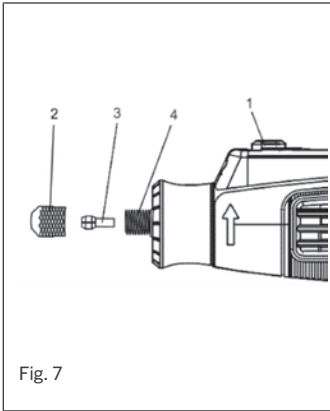

Fig. 7
2. Depress the spindle lock button (1) and slowly turn the collet nut (2) until the spindle lock button locks the spindle (Fig. 7).
4. Remove the collet (3) by pulling it out of the spindle (4).